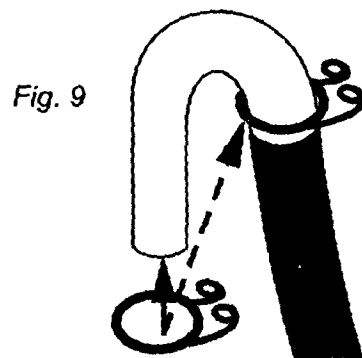

Fig. 9
- Secure the hook end with the yellow hose clamp. (Fig. 9)